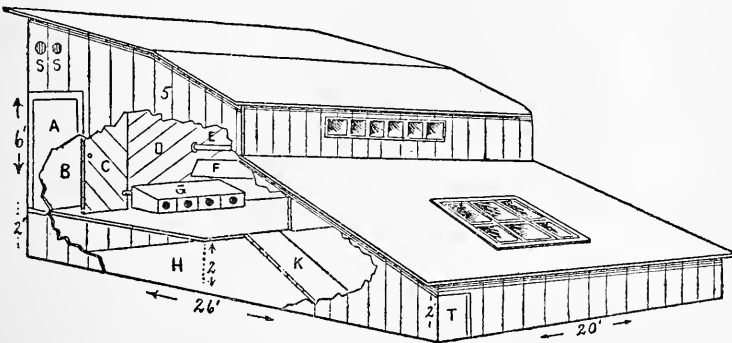
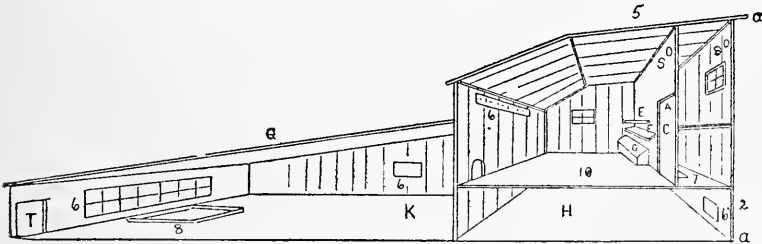

FIG. 1.
FIG. 2.
The poultry house illustrated on the next page is one in which convenience and comfort are the prime considerations. The roosting and laying-house, which constitutes the main building, is 10x20 feet, shown in rear side view at Fig. 1 in illustration. The front of the building is eight feet high, with space of two feet between ground run (H) and board floor above same, as seen in Fig. 2 of the illustration. The height of roof above the floor is, therefore, six feet. The rear posts of the building at point of junction with the shed are five feet high. The shed adjoining the rear of the main structure is 16x20 feet, making with the space beneath floor in main building a ground run of 20x26 feet.
The window in the shed roof is 3x3 feet and hinged to afford ventilation in summer. At S S in both figures are shown openings for ventilation four inches in diameter. The board floor in Fig. 2, as before stated, is two feet above ground and can be covered with tar